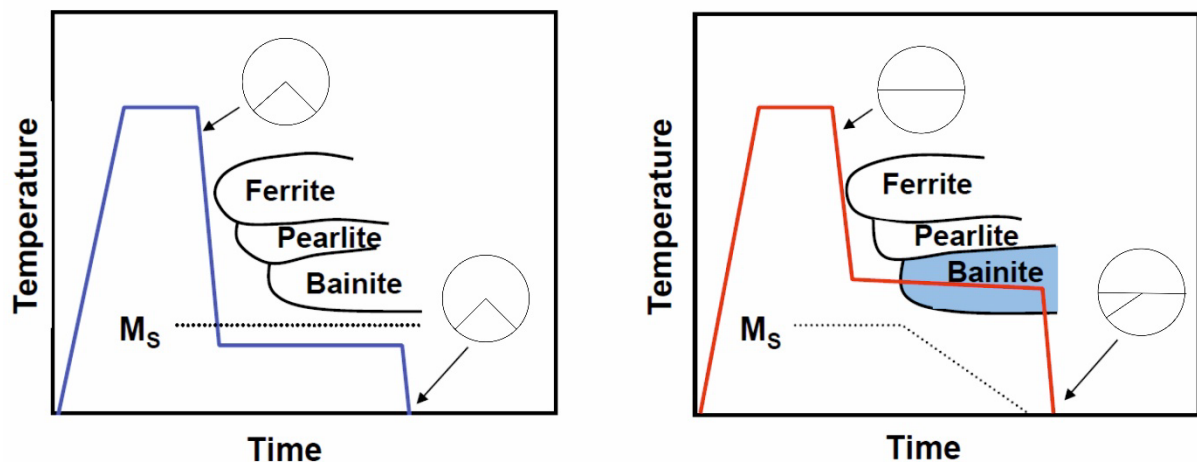

Figure 6: Processing routes of different steel grades of the 1st generation AHSS
- Figure 6 shows processing routes for the production of two different AHSS grades of the first generation, which have almost the same chemical composition, but different phases after heat treatment. Match the steel grades and indicate the predominant phases in the pie chart.
- Based on your background knowledge, you suggest it would be better to use a second generation (e.g. TWIP steels) instead of the first generation AHSS from c). Draw a schematic diagram of the heat treatment for TWIP steels in the graphic below and name the phase fractions present after each heat treatment step in a pie chart (in a similar way as Figure 6). What are the advantages of TWIP steels in terms of formability, crash safety, and durability compared to TRIP steels?